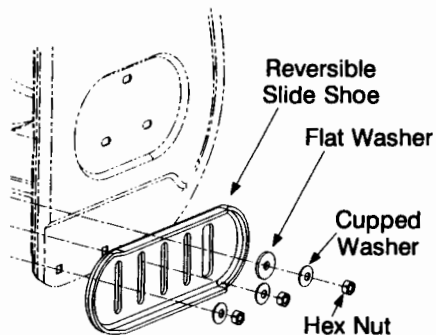

FIGURE 20 - REVERSIBLE SLIDE SHOE
- The space between the shave plate and the ground can be adjusted. For close snow removal, place slide shoes in the low position. Use middle or high position when area to be cleared is uneven. See Figure 20.